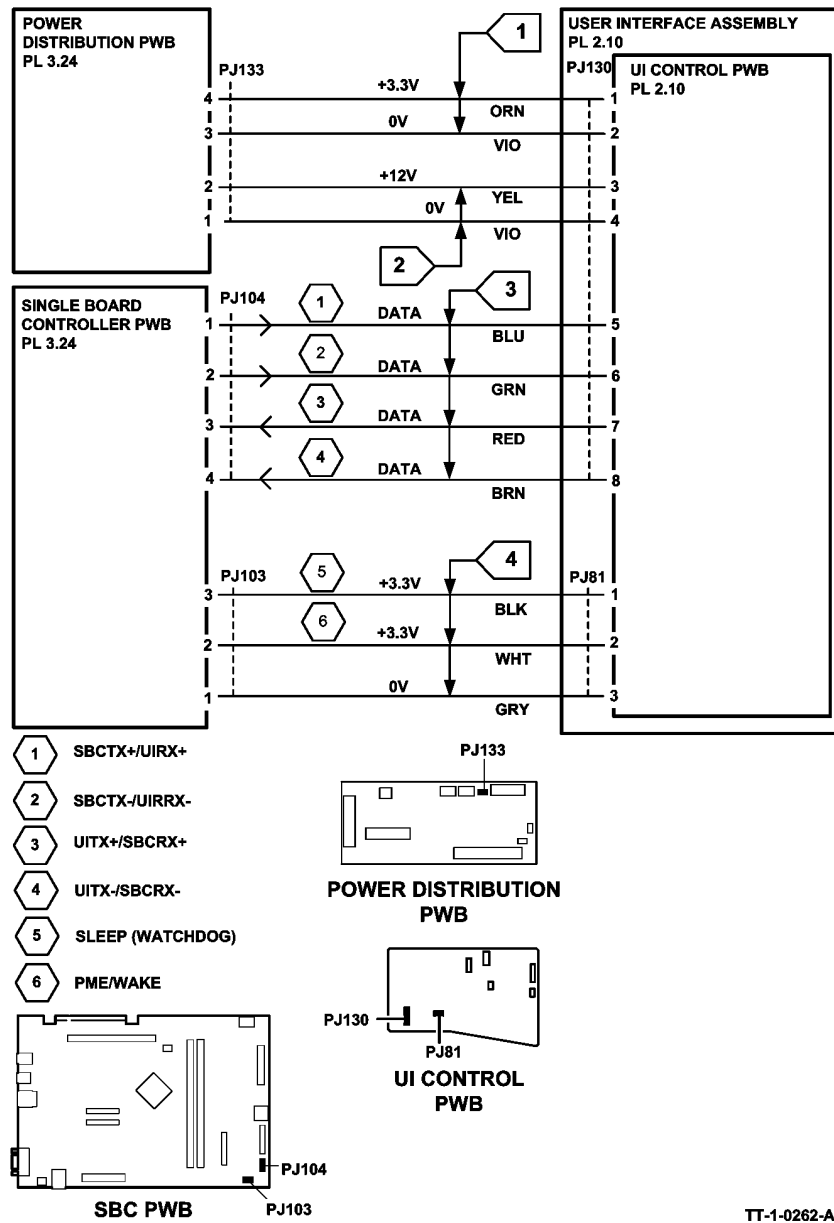

Figure 2 Circuit Diagram
2. Refer to Figure 2 and Figure 3. Make the following connections: